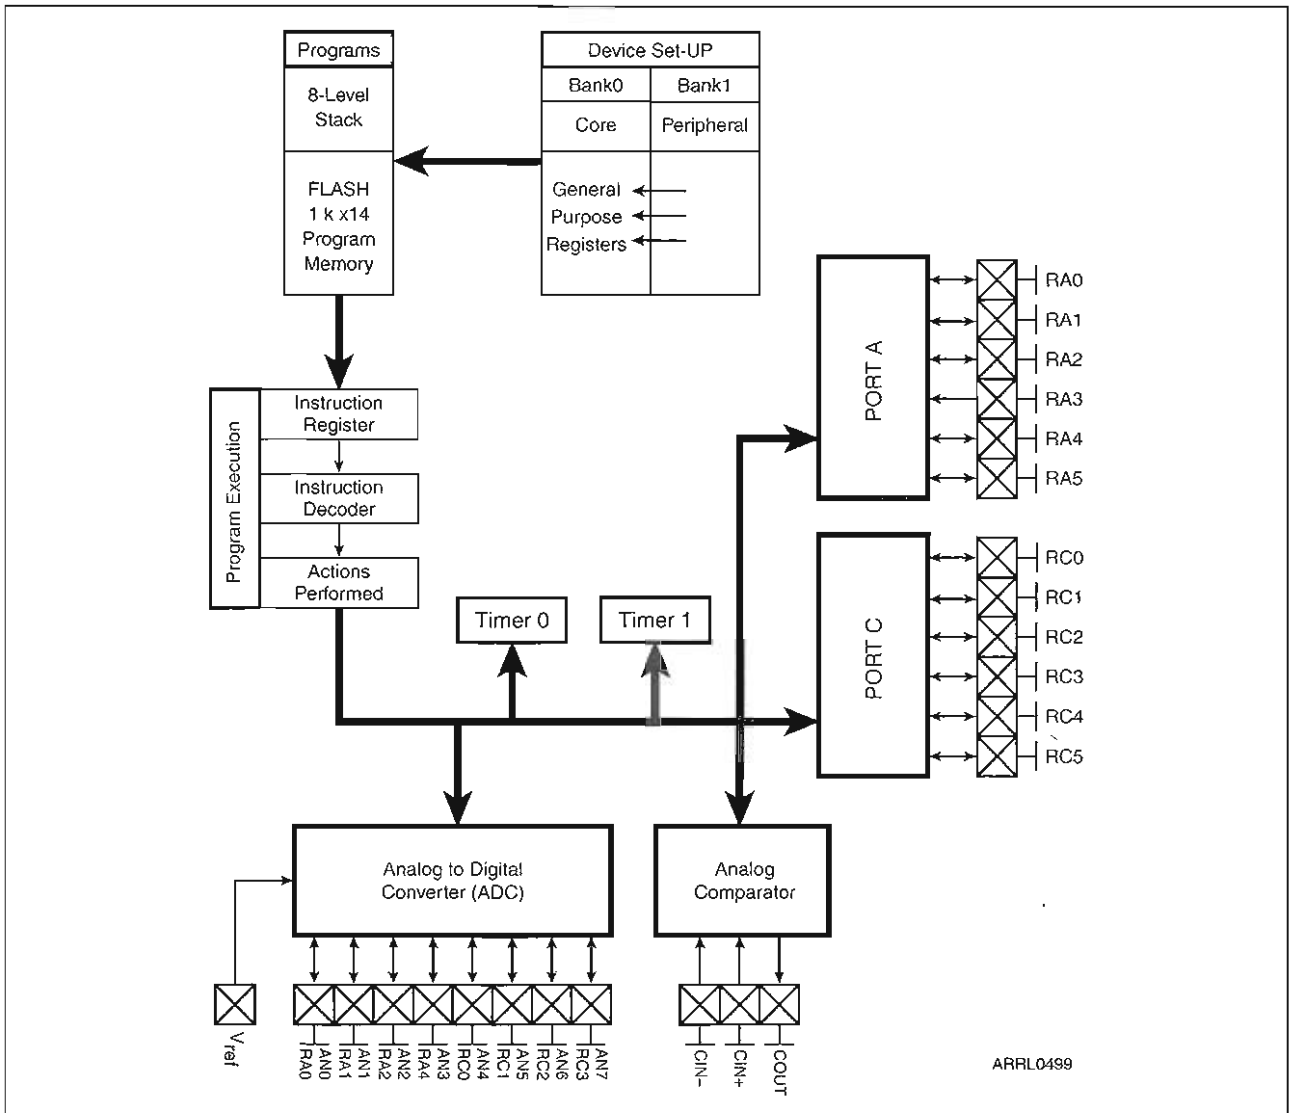

Figure 2-3 — PIC16F676 Overview.
The external 14-pins of the device are how you connect the PIC16F676 to the outside world, now let's take a look at what is going on inside the PIC16F676, at least pictorially. Take another look at Figure 1-1 on page 5 of the Data Sheet. This is a detailed block diagram of the internal workings of the device and how these internal functional blocks are interrelated. As you gain more experience with the PIC16F676, the more detailed diagram of the Data Sheet will make more sense. But for now I would like you to refer to the simplified diagram depicted in **Figure 2-3** for the following discussion.
The arrows in Figure 2-3 associated with the individual port pins indicate that data can go either into or out of the pin with the exception of RA3 which is input only. Pin
As mentioned above, the I/O pins serve many purposes as dictated by the programmer. This capability is indicated pictorially in Figure 2-3 with the comparator and ADC blocks. There is one comparator module with two pins RA0 and RA1 that can be software assigned as analog inputs and one pin, RA2, that can be assigned to be the comparator output. There are eight 10-bit ADCs, four on each port that are software assigned to RA0, RA1, RA2, and RA4 (RA3 is limited and therefore does not have ADC capability) and RC0 through RC3.
The MCU memory will be covered in detail in a later chapter, here we will take a macro view of the memory architecture. There are two blocks of memory depicted in the block diagram in Figure 2-3. The memory block labeled Device Setup consists of 96-bytes of random access memory (RAM) made up of byte sized registers. The bits within the individual registers are used to assign functionality to the device resources. For instance, setting the appropriate bits in the TRISA register determines if the I/O pins of PORTA are going to be input or output (either high (1) for input or low (0) for output). The area labeled General Purpose Registers is space for temporary storage of information used while the program is being executed. The memory block labeled Programs is where your program code will be stored.